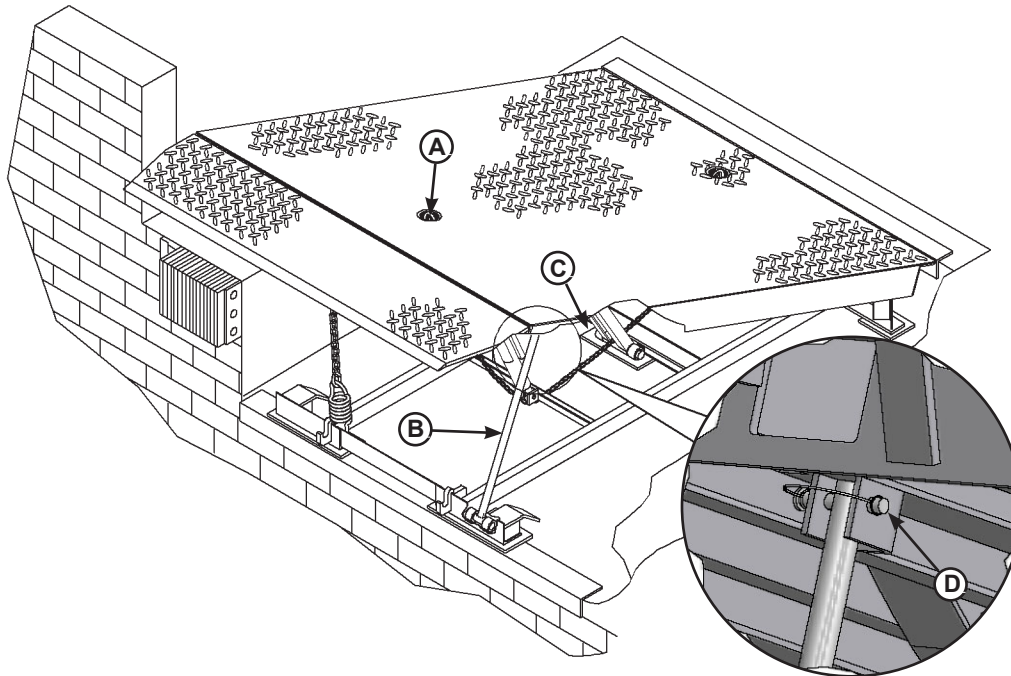
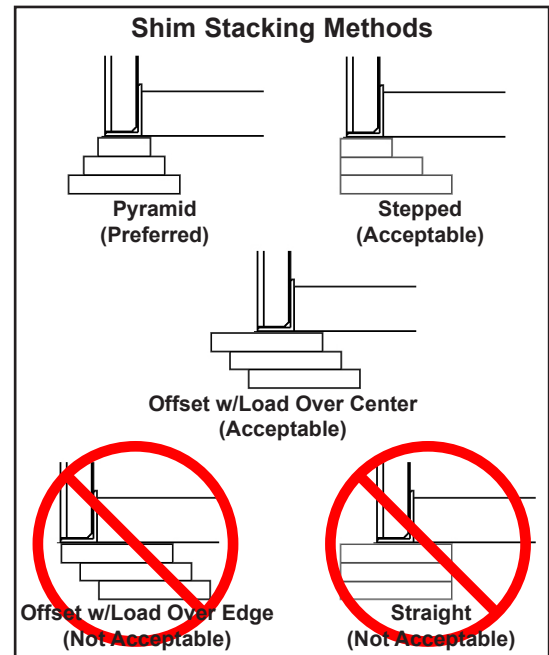

Figure 12
Figure 13
22. Shim and weld the maintenance prop (Figure 12):
a. Install shims under maintenance prop (B) where prop attaches to leveler frame. Make sure prop is solidly shimmed.
b. Raise maintenance prop (B) to the service (upright) position and lock prop in this position using an OSHA approved locking device.
23. Install shims under lift arm (C, Figure 12) at locations using an acceptable shimming method (see Figure 13). The lift arm pivot must be solidly shimmed the entire length of the lift arm pivot. Make sure the lift arm pivot is level from side-to-side.